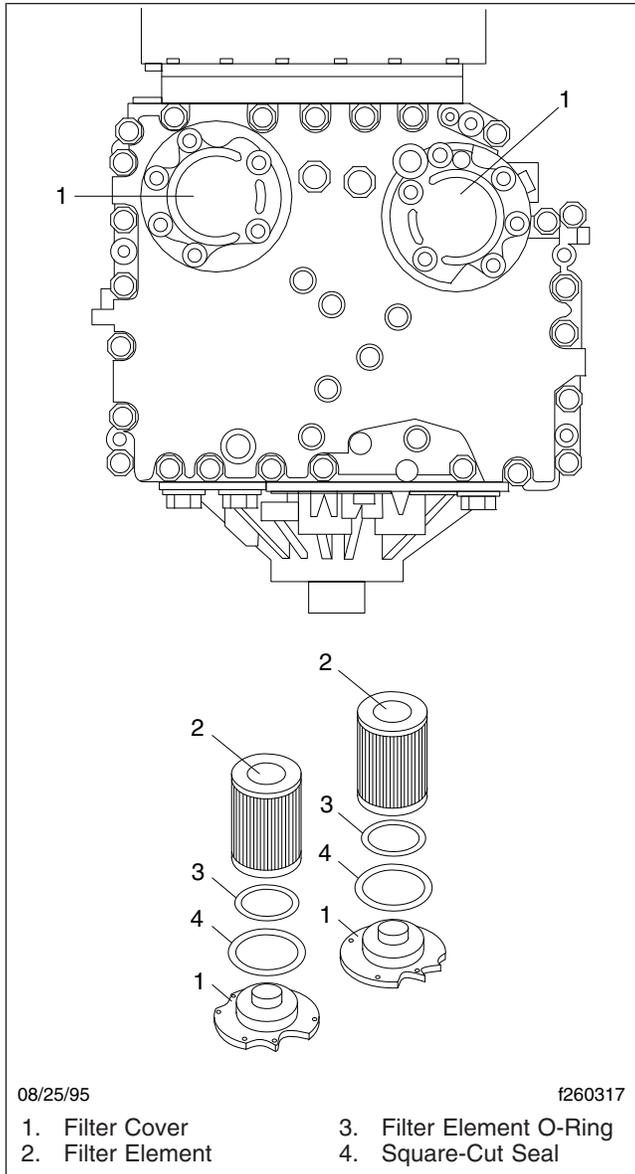

Fig. 4, Allison 3000 Series Transmission Filter Location and Components
5. Remove the filter covers, O-rings, and two square-cut seals from the transmission. See Fig. 4.